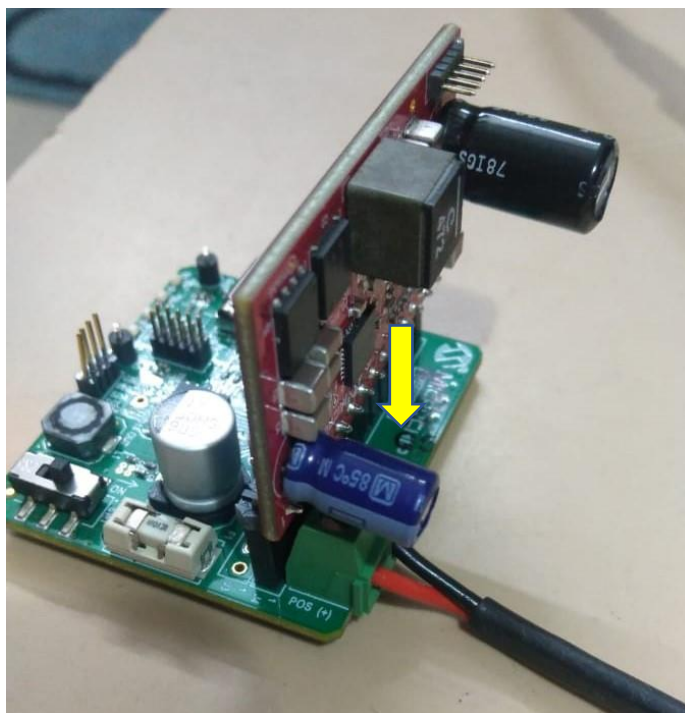

Figure 5.1 PM-PD Orientation
1. Connect PM-PD card on J4 in correct orientation as shown in Figure 5.1.